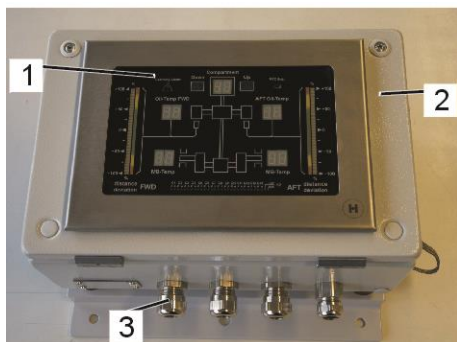

Fig.86: Indication unit with cable glands
1. Connect the Indication unit (Fig.86/1) to the housing (Fig.86/2).
2. Attach the Indication unit to the bulkhead either by bolts or by electrical welding. The cable glands (Fig.86/3) have to be on the bottom side of the box.